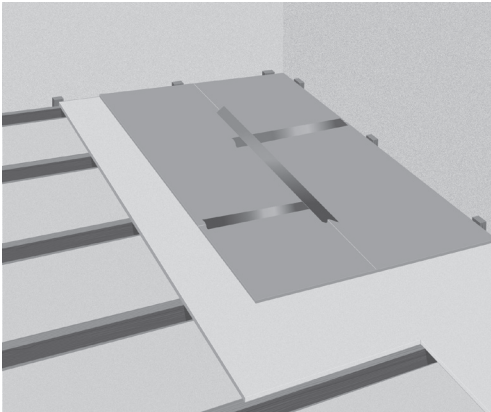

Fig. 4. Underlayment installation
6. Install the underlayment boards, e.g. Heatcom Reflector boards (Fig. 4). The entire subfloor should be covered. The underlayment boards should be installed in a tessellating pattern and the joints between the boards should be taped to secure their position. At footsteps in doorways, instead of the underlayment boards, a wooden block can be fitted to serve as more stable support to the flooring. The height of the block should be the